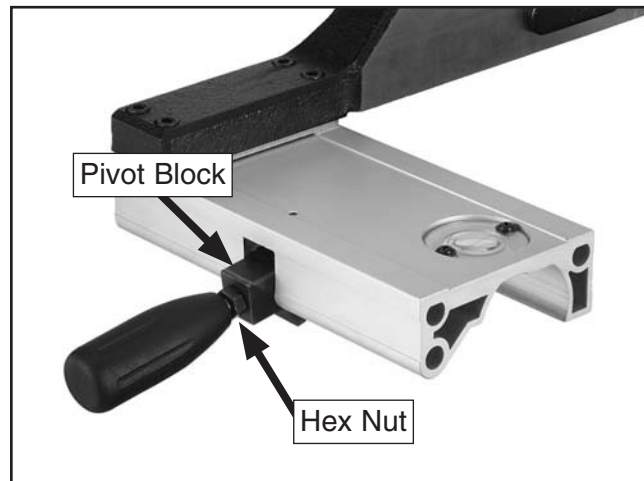

Figure 17. Handle installed on fence assembly.
19. Install the handle on the fence assembly (**Figure 17**), and tighten the hex nut against the fence pivot block to secure the handle.